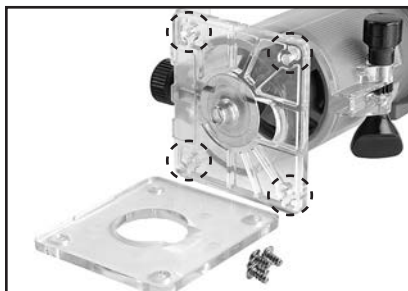

Figure 11. Router base screws removed.
1. Remove the screws securing the bottom of the router base as shown in **Figure 11**.